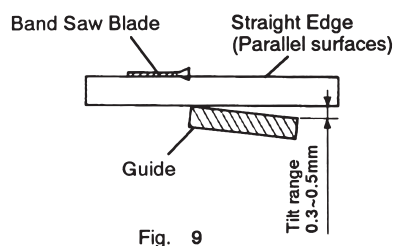

Fig. 9
At this time, inserting a straight edge (ensure its two opposite surfaces are parallel) between the band saw blade and guide, as illustrated in Fig. 9, will permit easy and accurate adjustment of guide parallelism.
2. Should the surface be not even if the guide is adjusted by following the above procedures, tilt the guide approximately 0.012 ~ 0.020" (0.3 ~ 0.5mm) as illustrated in Fig. 9.